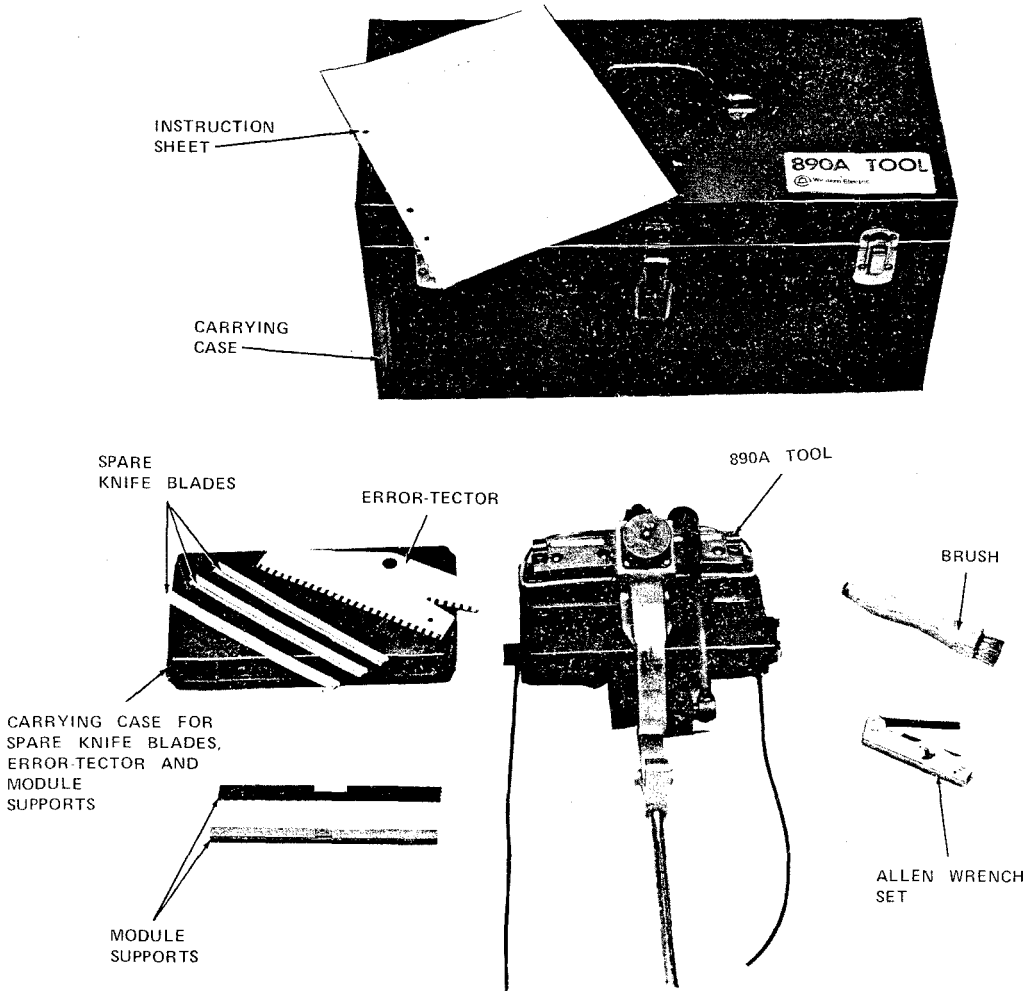

Fig. 26—890A Tool
4.09 The 890A tool, Fig. 26, is a manually lever operated tool which uses a cam/hydraulic system for power to assemble 25-pair 710 connector.